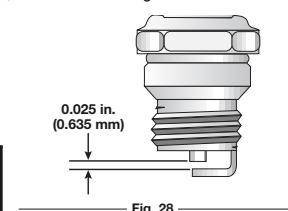

Fig. 28
3. Replace a cracked, fouled or dirty spark plug. Set the air gap at 0.025 in. (0.635 mm) using a feeler gauge (Fig. 28).